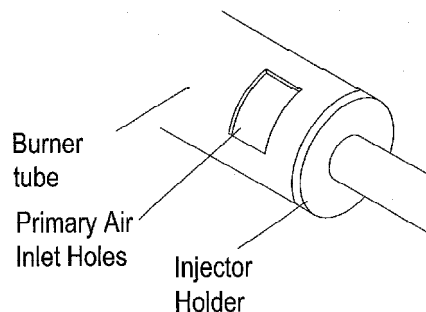

Figure 21 - Injector Holder On Outlet Burner Tube
2. Inspect burner, pilot and primary air inlet holes on injector holder for dust and dirt (see figure 21).